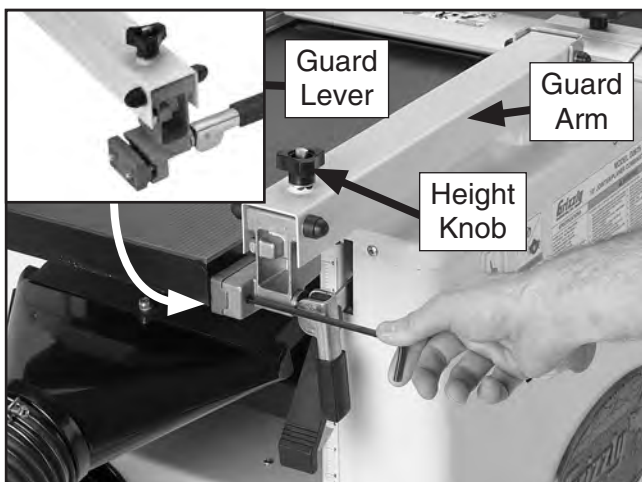

Figure 11. Blade guard arm installed.
2. Engage the blade guard lever, align the cap screws on the arm with the mounting holes on the outfeed table, then tighten the screws (see detail in **Figure 11**).
To raise the blade guard, turn the height adjustment knob counterclockwise (**Figure 11**); to lower the blade guard, turn the knob clockwise.